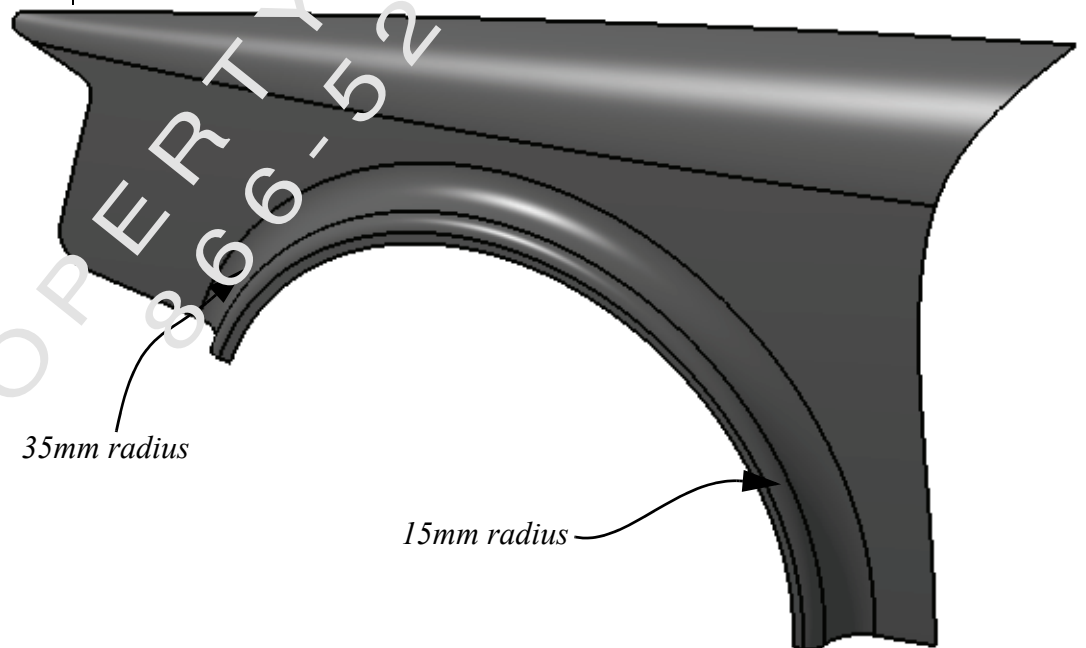

Figure 1-67
11. Using the **Edge Fillet** tool place fillets on the edges of the wheel well as shown in Figure 1-67.